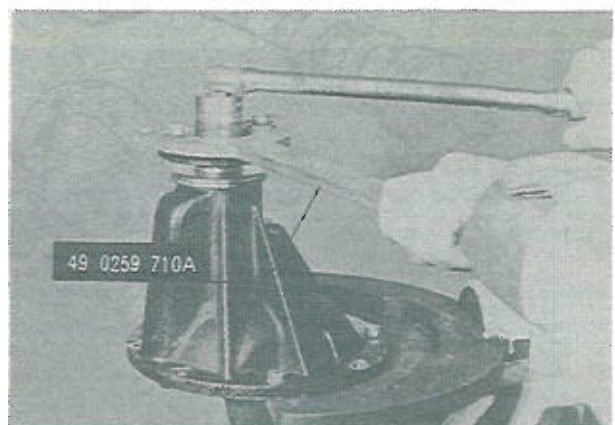

Fig. 9-23 Removing of pinion nut
2. Using the **companion flange holder** (Part No. 49 0259 710A) shown in Fig. 9-23, remove the pinion nut and remove the companion flange.